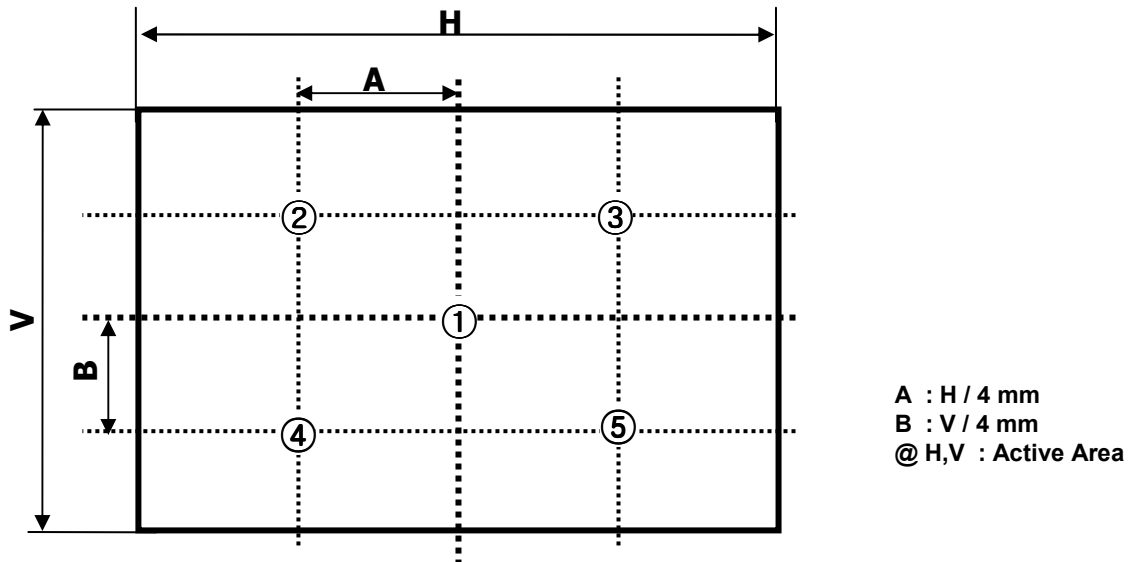

FIG.10 5 Points for Luminance Measure
2. Surface luminance is determined after the unit has been 'ON' and 1Hour after lighting the backlight in a dark environment at  $25 \pm 2^\circ\text{C}$ . Surface luminance is the luminance value at center 1-point across the LCD surface 50cm from the surface with all pixels displaying white. For more information see the FIG. 10.
For more information, see the FIG. 10.